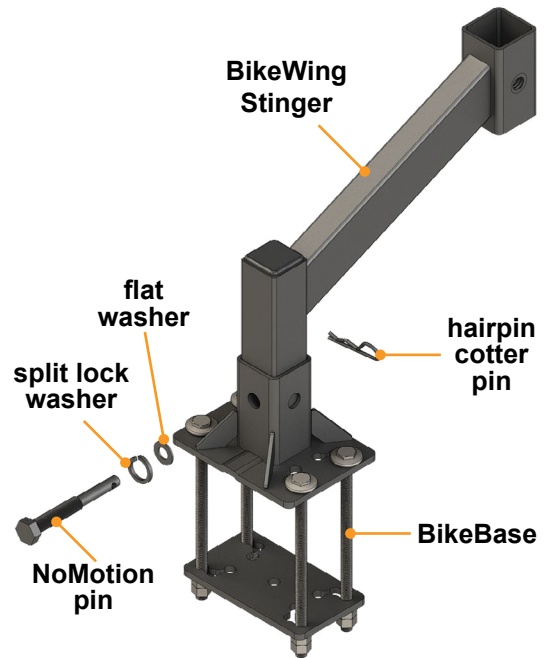
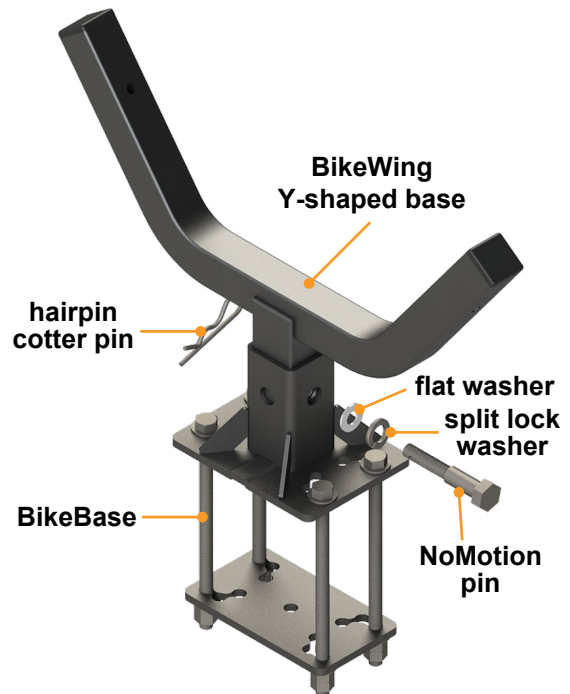

Fig.2
Fig.3
1. Attach the BikeWing Stinger (**Fig.2**) or the BikeWing Y-shaped base (**Fig.3**) to the receiver tube of the BikeBase with a NoMotion pin and washers. Install the split lock washer first and then the flat washer onto the NoMotion pin.